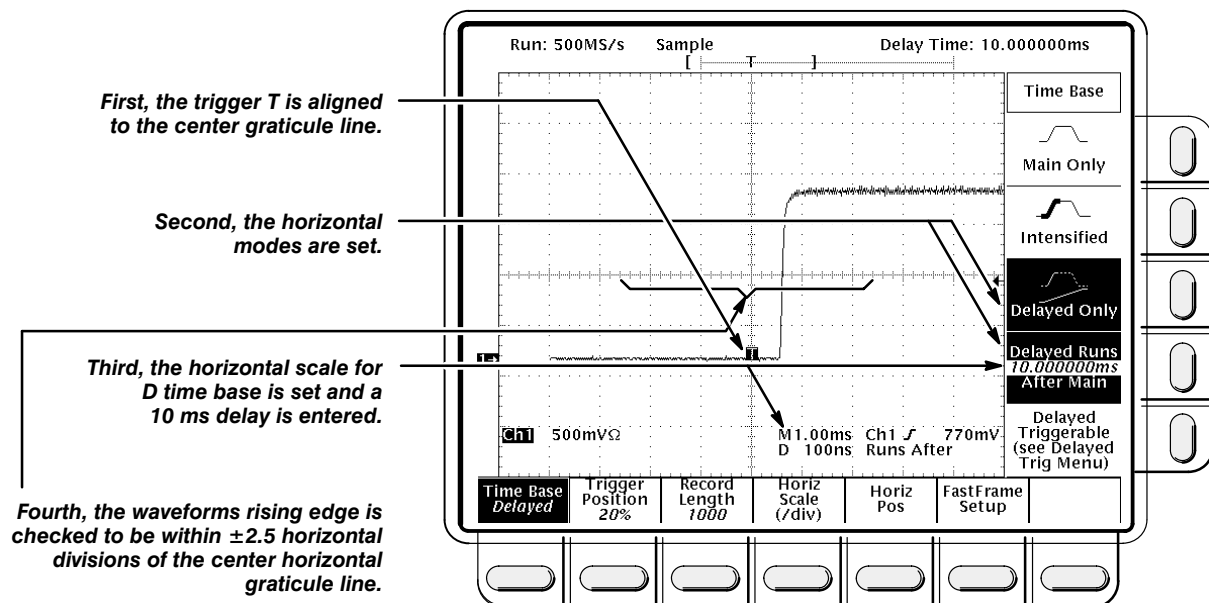

Figure 1-13: Measurement of Accuracy — Long-Term and Delay-Time
- c. *Check long-term sample rate and delay time accuracies against limits:* CHECK that the rising edge of the marker crosses the center horizontal graticule line at a point within ± 2.5 divisions of center graticule. See Figure 1-13.